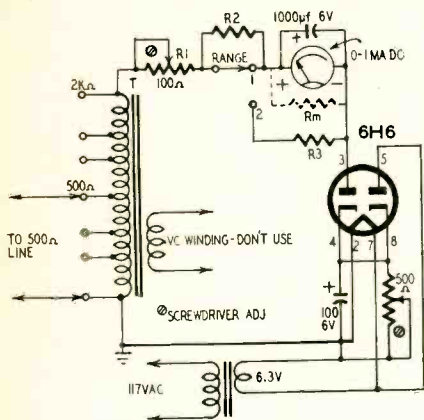

Fig. 1—Diode wattmeter schematic.
**A**UDIO-frequency wattmeters, for use at medium and high power levels, are difficult to obtain commercially, and few of them have been made for use in custom-built and commercial installations. The wattmeter described in this article (Fig. 1) is extremely well suited for use in amateur modulators to indicate the a.f. output and in better-quality amplifiers and public-address systems where human ability to judge power output seems to vary inversely with the tone quality.